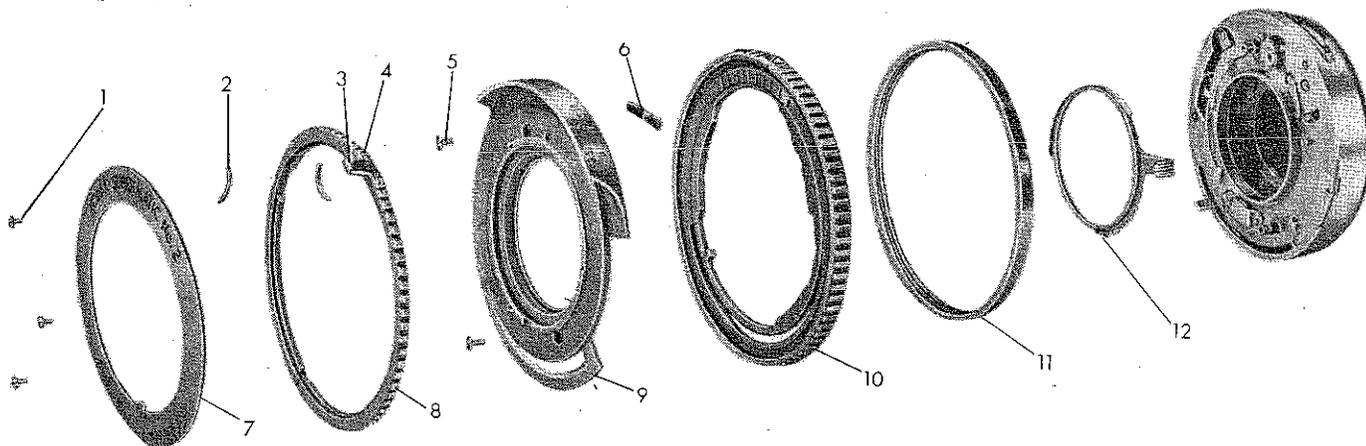

Figure 33—Parts on Front of Shutter, Exploded
(1) PARTS ON FRONT OF SHUTTER. (See figure 33.)